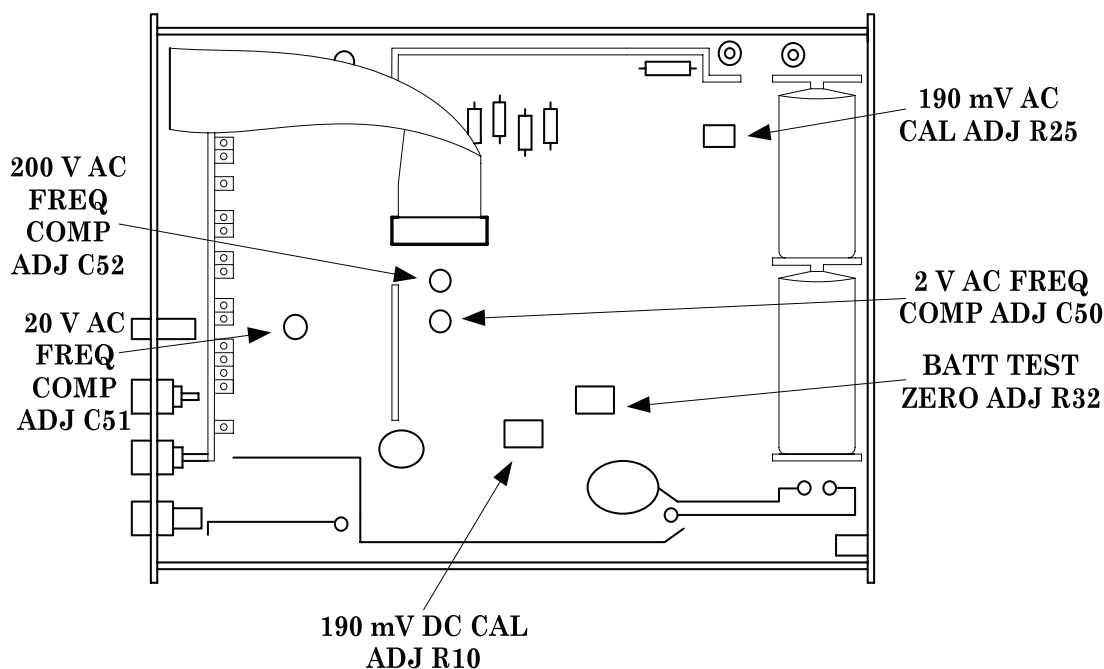

Figure 1. Test instrument - top view.
(4) Set calibrator output to minimum.
b. Adjustments. Set calibrator for an output of 0.1900 V and adjust 190 mV DC CAL ADJ R10 (fig. 1) until TI indicates 190.0 (R).
- (1) Set calibrator for an output amplitude of 190.00 mV and an output frequency of 94 Hz.
- (2) Adjust 190 mV AC CAL ADJ R25 (fig. 1) until TI indicates 190.0 (R).
- (3) Set calibrator for an output amplitude of 1.9 V and an output frequency of 5 kHz.
- (4) Adjust 2 V AC FREQ COMP ADJ C50 (fig. 1) until TI indicates 1.900 (twist the Teflon pair tighter to increase capacitance or incrementally cut twisted pair to reduce capacitance (R).
- (5) Set calibrator for an output amplitude of 19 V and an output frequency of 5 kHz.
- (6) Adjust 20 V AC FREQ COMP ADJ C51 (fig. 1) until TI indicates 19.00 (R).
- (7) Set calibrator for an output amplitude of 190 V and an output frequency of 5 kHz.
- (8) Adjust 200 V AC FREQ COMP ADJ C52 (fig. 1) (twist the Teflon pair tighter to increase capacitance or incrementally cut the twisted pair to reduce the capacitance) until TI indicates 190.0 (R).
- (1) Adjust BATT TEST ZERO ADJ R32 (fig. 1) for a 0.000 indication on TI display.
- (2) Install new batteries.